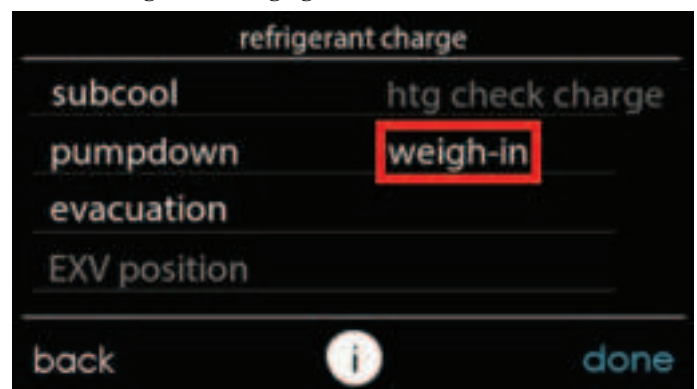

Fig. 16 – Weigh-in Option for charging below 65°F OAT and above 105°F OAT
10. If the outdoor ambient is below 65°F or above 105°F then the refrigerant must be weighed in. Press the "weigh-in" option in the "refrigerant charge" screen (see Fig. 16).